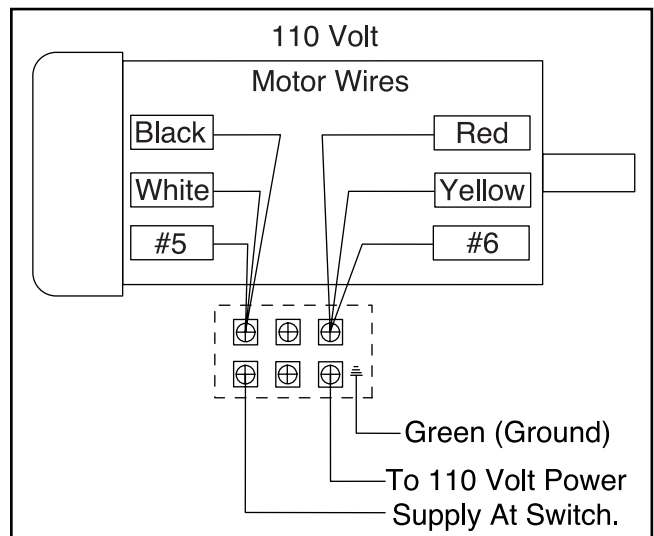

Figure 6.
3. Wire the motor per the diagram in **Figure 6.** The wires from the power supply, besides the Green Ground wire, are interchangeable, therefore colors are not specified.